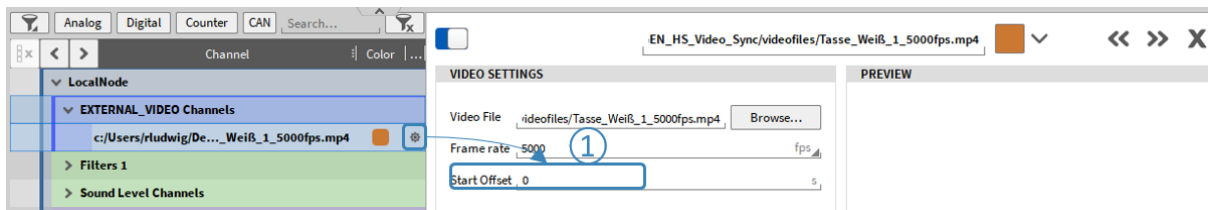

Fig. 7.167: Compensating a deterministic delay between video and sensor data
If the latency between video and sensor data is known it can be compensated by entering the delay in *Start Offset* in the video's channel setup (see ① in Fig. 7.167).